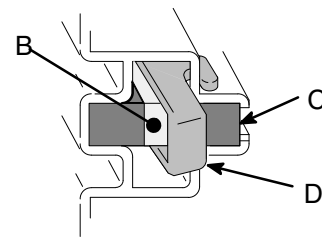

Fig. 12 01227
3. Push in the clip (D) to unhook it, and then pull out the clip. See Fig. 12.